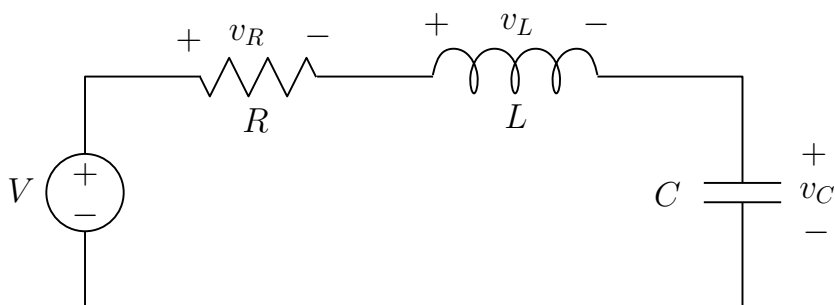

Figure 8.2: Series RLC circuit.
1. Let's derive the differential equation for the series RLC circuit shown in Figure 8.2.
- (a) Since Figure 8.2 is a series circuit, the current is the same through all three elements. Call this current i . Express the voltage across the resistor and the voltage across the inductor in terms of this current i .
Figure 8.2 shows the series RLC circuit which will be the focus of this laboratory. We will use the function generator to provide the voltage V to the circuit. However, this circuit has a very low input impedance. As we've seen before, when cascading circuits together this low input impedance can introduce loading effects. To buffer the function generator from the RLC circuit, we will build a voltage follower.
1. Build the series RLC circuit shown in Figure 8.2 using the $1\text{ k}\Omega$ potentiometer for R , $L = 0.33\text{ mH}$, and $C = 0.1\text{ }\mu\text{F}$. Use the output of the voltage follower, v_{ob} as V .